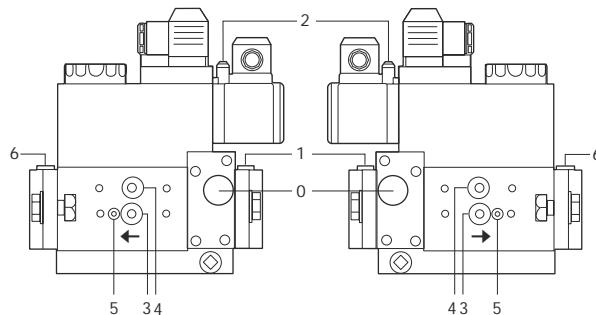
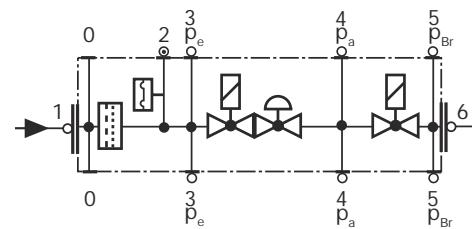

Fig. 55
Fig. 56
- Clean and examining the gas filter cartdrige, if necessary replace it (Fig. 55 on).
- Change the filter if the pressure difference between pressure connection 1 and 3 (Fig. 55-Fig. 56) is $\Delta p > 10$ mbar.
- Change the filter if the pressure difference between pressure connection 1 and 3 (Fig. 55-Fig. 56) is twice as high compared to the last check.